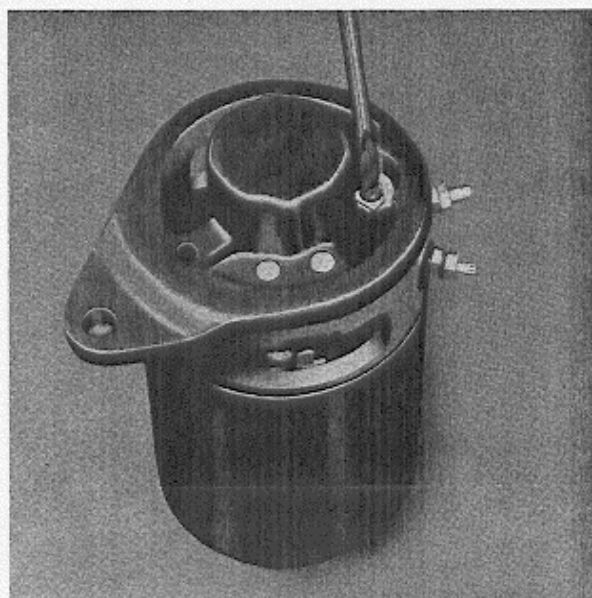

Fig. 39. Removing the connecting bar.
3. Remove the screws which hold the dynamo housing and end heads together after having first disconnected the connecting bar as shown in Fig. 39.
- Connect the bar the main current to the positive brush, see Fig. 39.